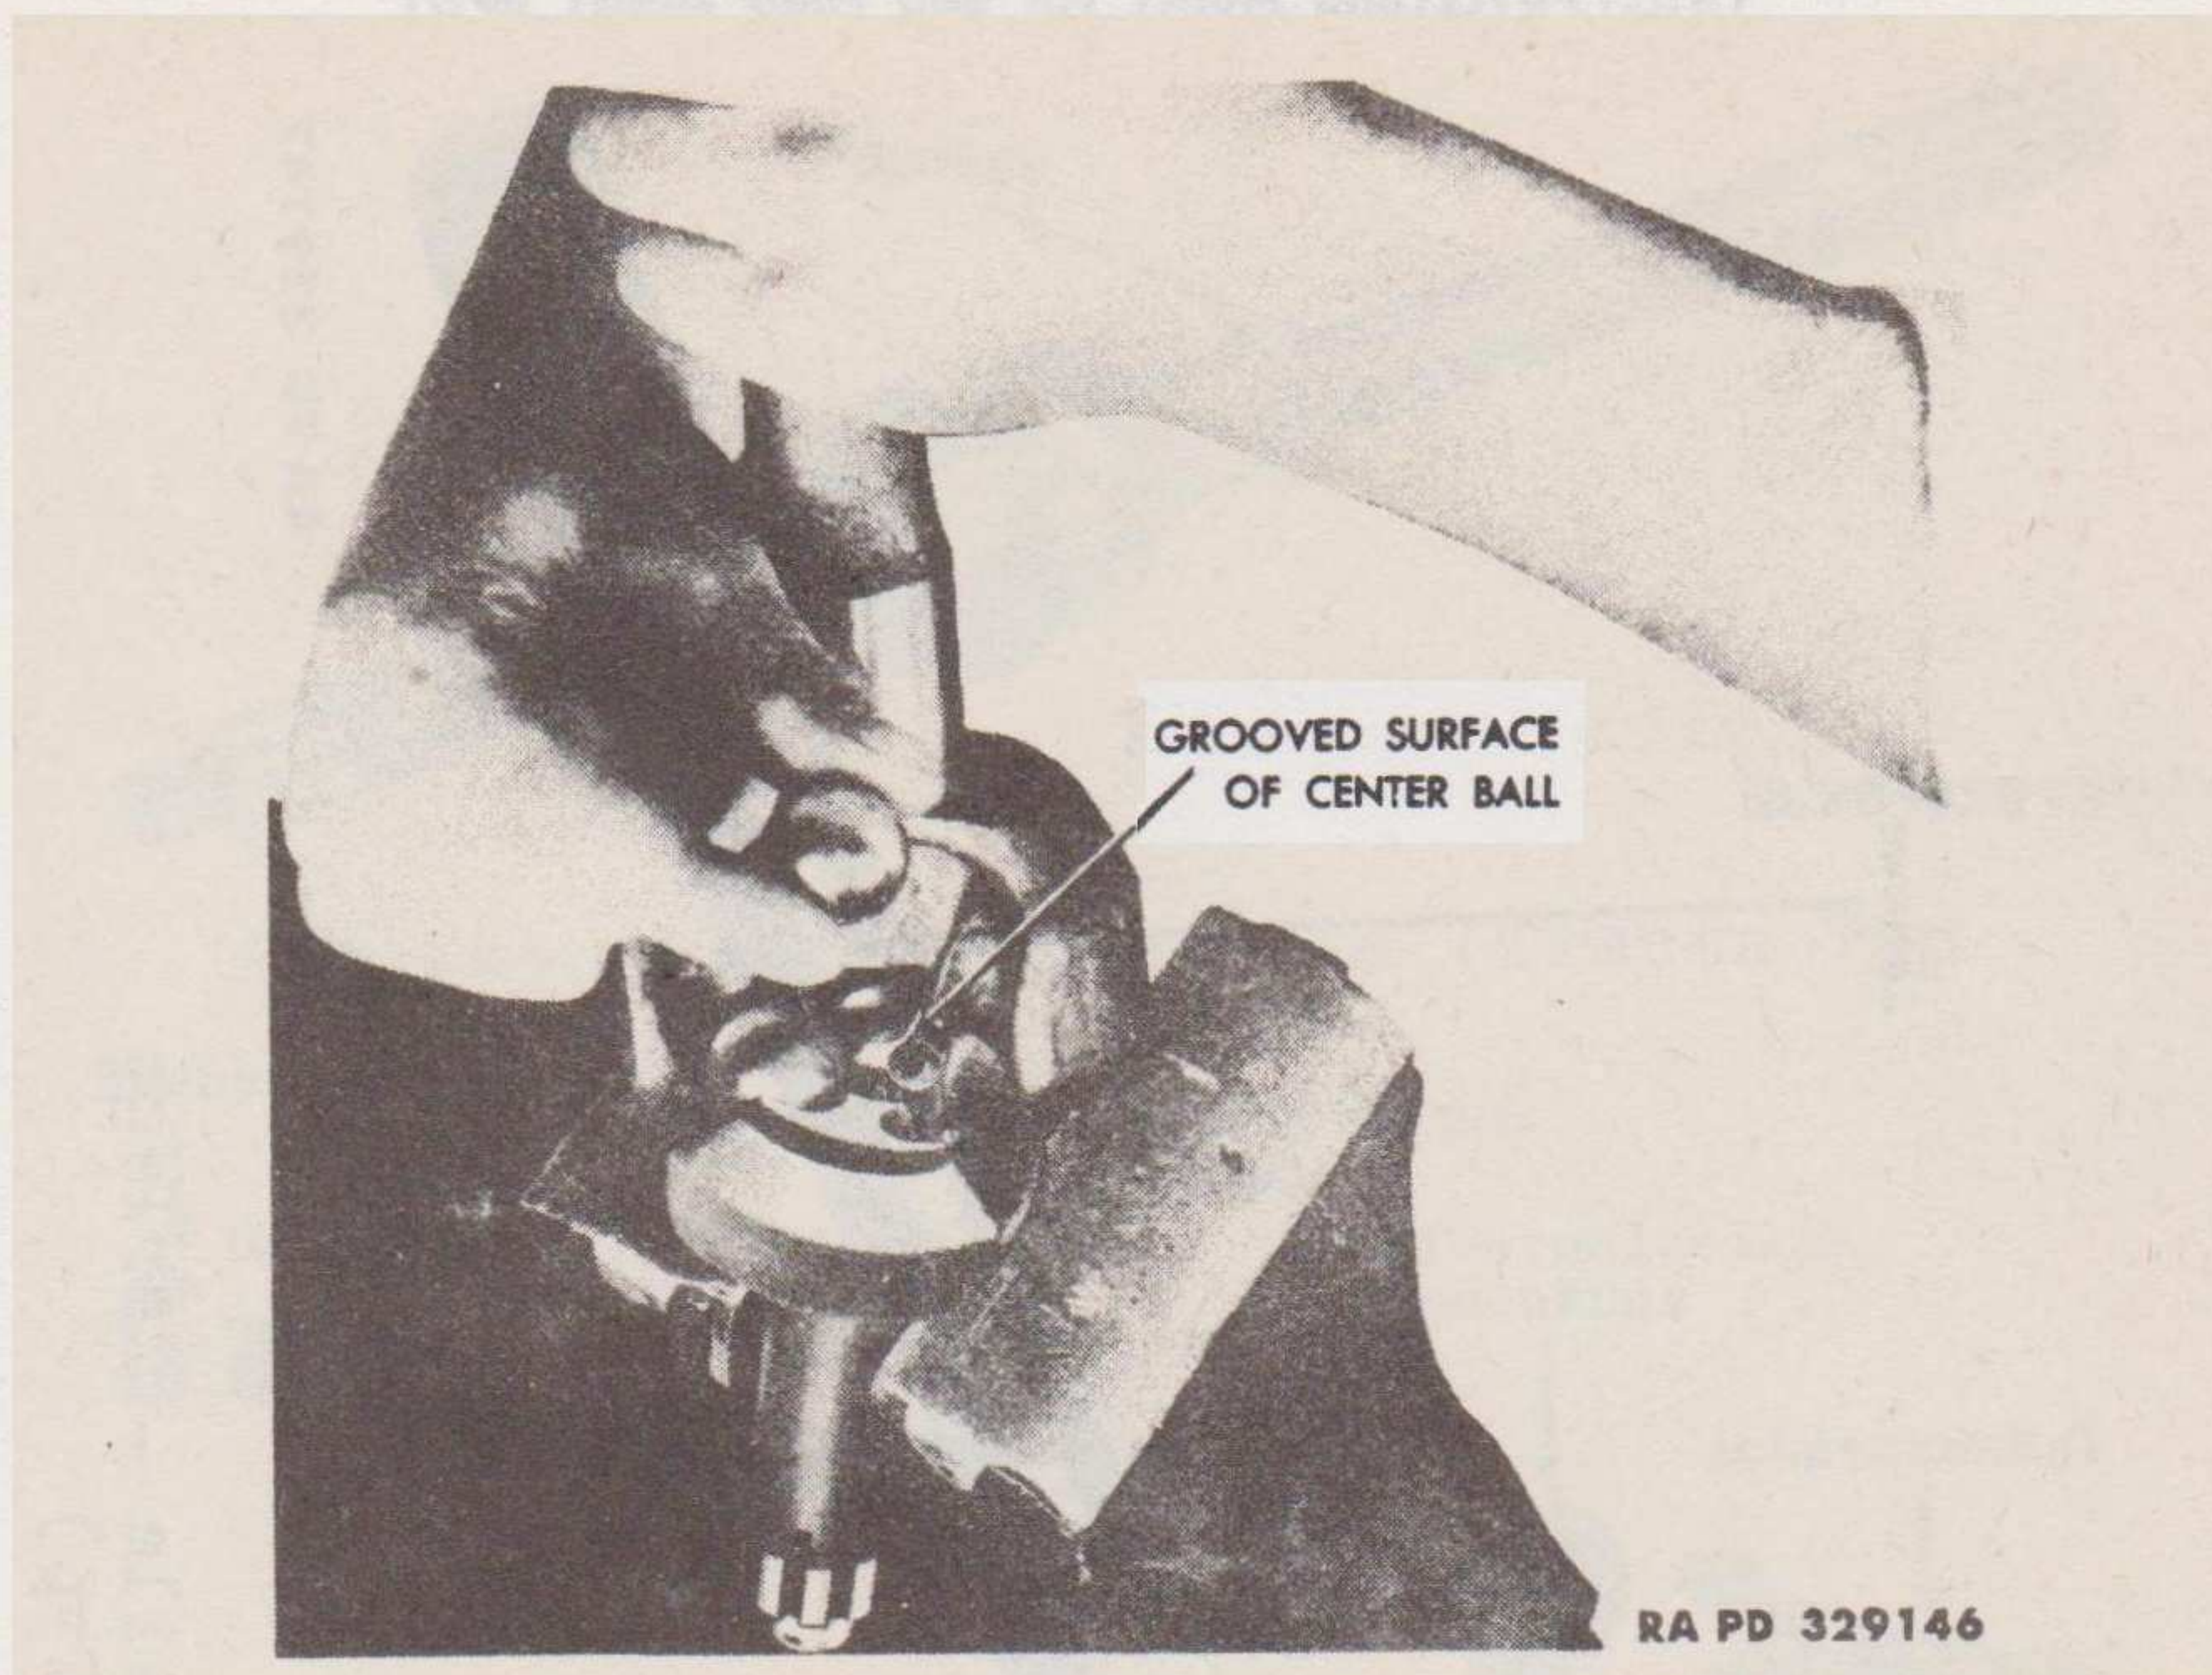

Figure 42 — Front Axle Shaft (Bendix Type)
(2) BENDIX UNIVERSAL JOINT (figs. 42 and 43). Place the axle